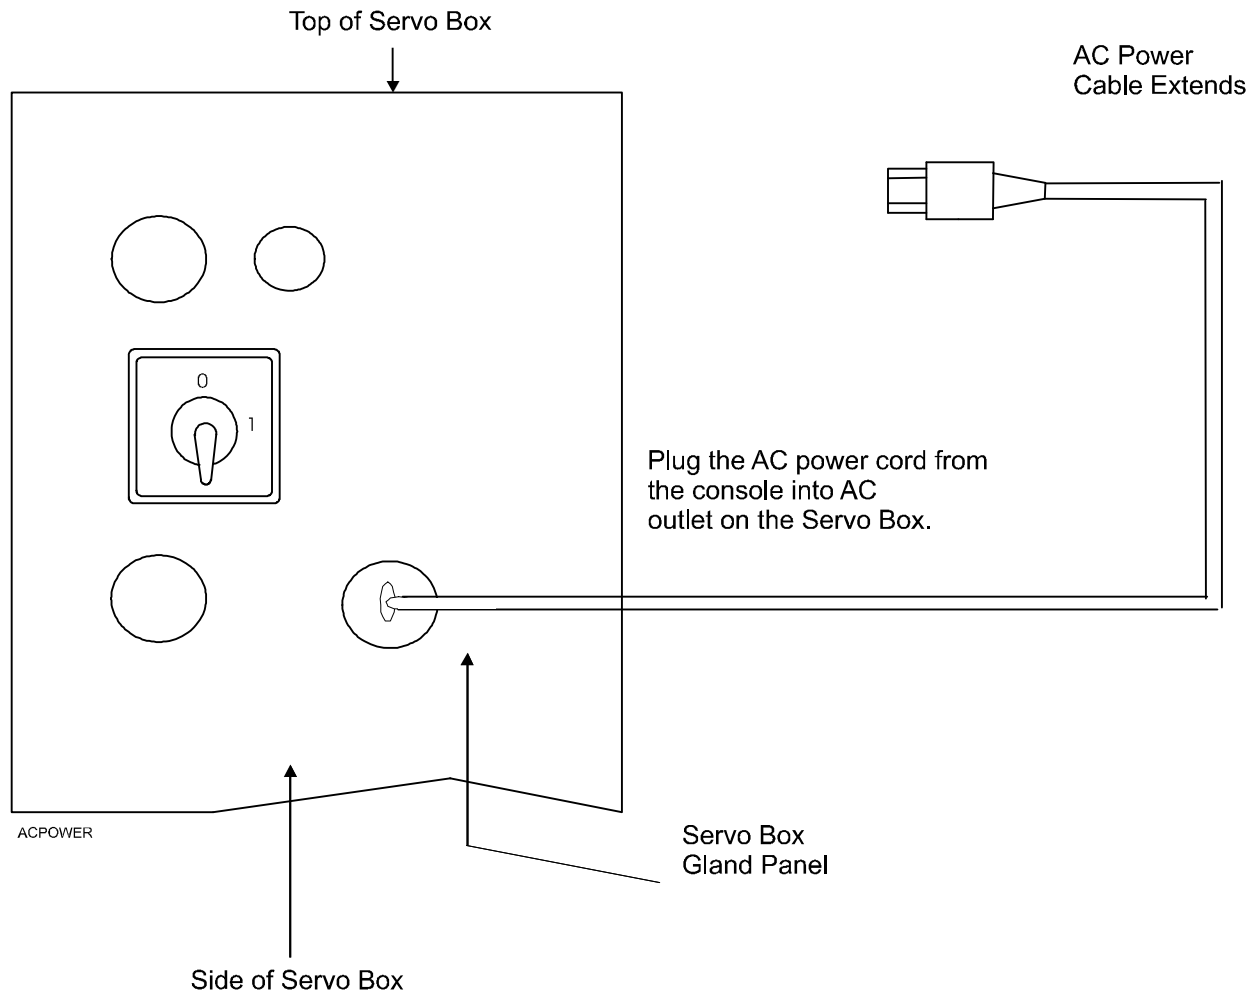

Figure 3-44, Monitor AC Power Connection
12. Refer to **Figure 3-44**. The AC power harness, P/N 36000262, cord from the console into the AC outlet on the servo box.